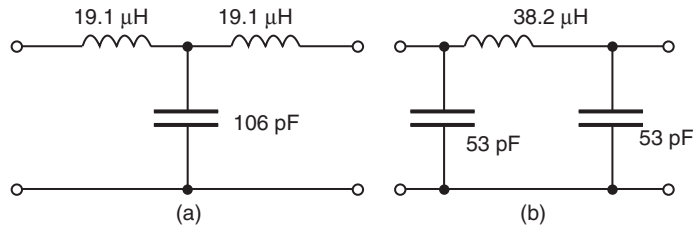

Figure 17.10
- (a) A low-pass T-section filter is shown in Fig. 17.10(a), where the series arm inductances are each $\frac{L}{2}$ (see Fig. 17.7(a)), i.e. $\frac{38.2}{2} = 19.1 \mu\text{H}$
- (b) A low-pass π -section filter is shown in Fig. 17.10(b), where the shunt arm capacitances are each $\frac{C}{2}$ (see Fig. 17.7(b)), i.e. $\frac{106}{2} = 53 \text{ pF}$